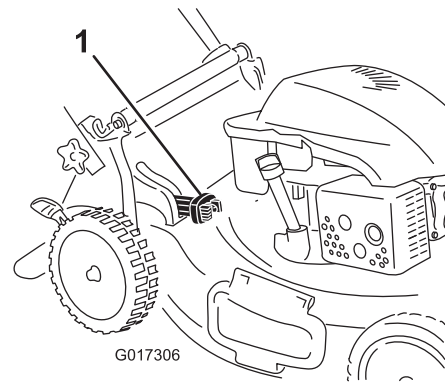

Figure 16
- For bagging the grass and leaf clippings, press the button on the bag-on-demand lever and move the lever forward until the button on the lever pops up (Figure 16)